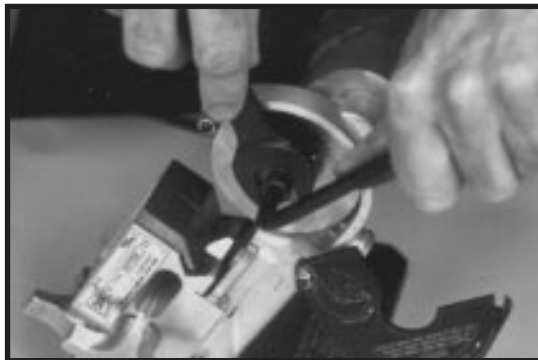

Figure 2
4. Replace retaining washer and tensioning bolt using supplied hand tools (Figure 2).